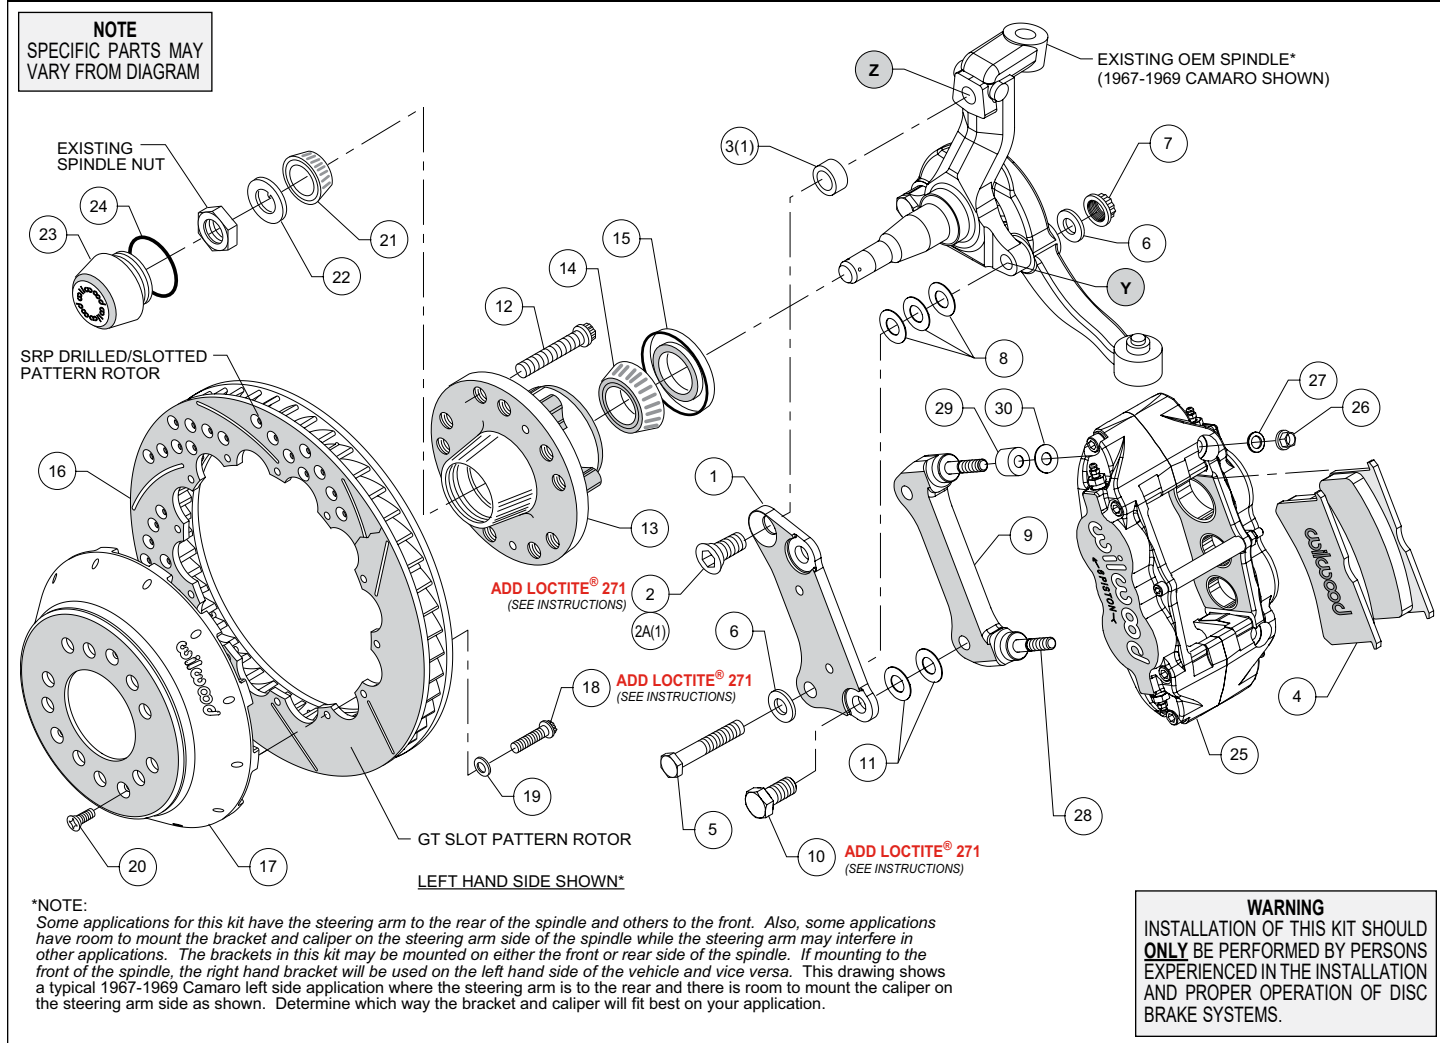
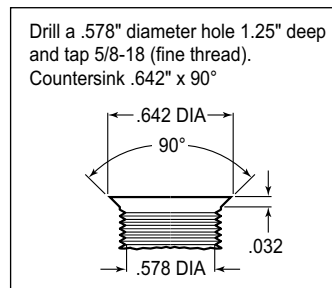
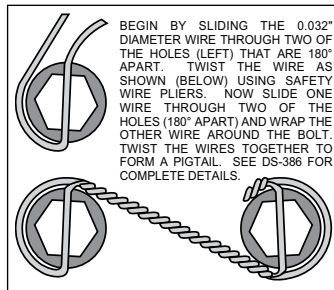

Figure 1. Typical Installation Configuration
Figure 3. Drill and Tap Detail
Figure 4. Safety Wire Diagram
NOTE: Numbers in parenthesis refer to the parts list and Figure 1 on the preceding pages.
NOTE: Some applications for this kit have the steering arm to the rear of the spindle and others to the front. Also, some applications have room to mount the bracket and caliper on the steering arm side of the spindle while the steering arm may interfere in other applications. The brackets in this kit may be mounted on either the front or rear side of the spindle. If mounting to the front of the spindle, the right hand bracket will be used on the left hand side of the vehicle and vice versa. Figure 1 shows a typical 1967-1969 Camaro left side application where the steering arm is to the rear and there is room to mount the caliper on the steering arm side as shown. Determine which way the bracket and caliper will fit best on your application.
NOTE: Some spindles in this year range may require the following modifications (reference Figure 1 and Figure 3): Top anchor pin hole (Z) must be drilled and tapped to the dimensions as outlined in Figure 3. The lower bolt hole (Y) in the spindle used to mount the new caliper bracket, and the mating steering arm hole, must be enlarged to .50" by drilling. It is recommended these modifications be performed by a qualified machinist.
Orient the rotor (16) and the hat (17) as shown in Figure 1 and Photo 3. Attach rotor to hat using bolts (18) and washers (19). Apply red *Loctite*® 271 to the bolt threads and torque to 155 in-lb using a criss-cross pattern. For an added measure of security, the bolts may be safety wired using standard 0.032 inch diameter stainless steel safety wire as shown in Figure 4. Please refer to Wilwood's data sheet DS-386 (available at www.wilwood.com/Pdf/DataSheets/ds386.pdf) for complete safety wire installation instructions.
•**Disc Brake Spindle Application Only:** Follow the instructions below, but instead use bolt (2A), and spacer (3) in the upper bolt hole location, Figure 1.
•Orient the flat bracket (1) as shown in Figure 1 and Photo 4, and install using bottom bolt (5), washers (6), and nut (7), Figure 1. Initially place three .032" thick shims (8) between the bracket and spindle. Install the upper bolt (2 or 2A). Temporarily tighten bolts. **NOTE:** *The bracket must fit squarely against the mounting surfaces on the spindle.* Inspect for interference from casting irregularities, machining ridges, burrs, etc. Temporarily install the new hub, hat and rotor assembly. Check that the bracket is aligned parallel to the rotor, Photo 5. If not, adjust by adding or subtracting shims (8) on the lower bolt between the bracket and spindle, Figure 1. Once the bracket alignment is correct, remove the upper bolt (2 or 2A), apply red *Loctite*[®] 271 to the bolt threads, and torque to 120 ft-lb. Torque the lower lock nut to 65 ft-lb.
•The radial mount caliper bracket (9) should initially be installed with clean, dry threads on the mounting bolts. Orient the bracket as shown in Figure 1 and Photo 6, and install using bolts (10). Initially place two .029 thick shims (11) on each bolt between the two brackets, Figure 1. Temporarily tighten the mounting bolts. Later, after the caliper alignment has been checked, the mount bolts will be secured using red *Loctite*[®] 271.
•Pack the small outer bearing cone (21) with high temperature disc brake bearing grease and install into hub (13). Final install the hub assembly onto the spindle. Secure using spindle washer (22) and OEM spindle nut, Photo 7. Adjust bearings per OEM specifications. Install saved OEM nut lock (if any) and a new cotter pin (not included).
•Screw dust cap (23) into hub (13). Friction created by the o-ring (24) on the dust cap keeps it from unscrewing. **NOTE:** *The O.D. of the existing OEM spindle washer may be larger than the I.D. of the dust cap not allowing it to seat against the hub face. Therefore, use the spindle washer (22) supplied with the kit instead of the OEM washer.*
•Final install the rotor (16 and 17) assembly onto the hub (13), taking care to align the small countersunk holes in the hat with the small threaded holes in the hub. **NOTE:** *The hat must fit flush against the hub face or excessive rotor run out may result.* Install three flat head screws (20) through the small holes in the hat (17), Photo 8, and torque to 85 in-lb.
•**NOTE:** *This kit contains distinct right and left hand calipers that must be mounted in a specific direction, as described below.* Initially place spacer (29) and one .035" thick shim (30) on each stud (28) between the caliper and the bracket, as shown in Figure 1 and Photo 9. Mount the caliper (25) onto the bracket (9) using lock nuts (26) and washers (27), Figure 1. Ensure that the caliper is mounted so the largest pistons are at the rotor exit end of the caliper, in relation to the direction of rotor rotation. Temporarily tighten the lock nuts. The rotor should be centered in the caliper, Photo 10. If not, adjust by adding or subtracting shims (11) between the flat bracket (1) and the caliper bracket (9). Always use the same amount of shims on each of the two mounting bolts. Once the caliper alignment is correct, remove the bracket mounting bolts one at a time, apply red *Loctite*[®] 271 to the threads, and torque to 77 ft-lb.